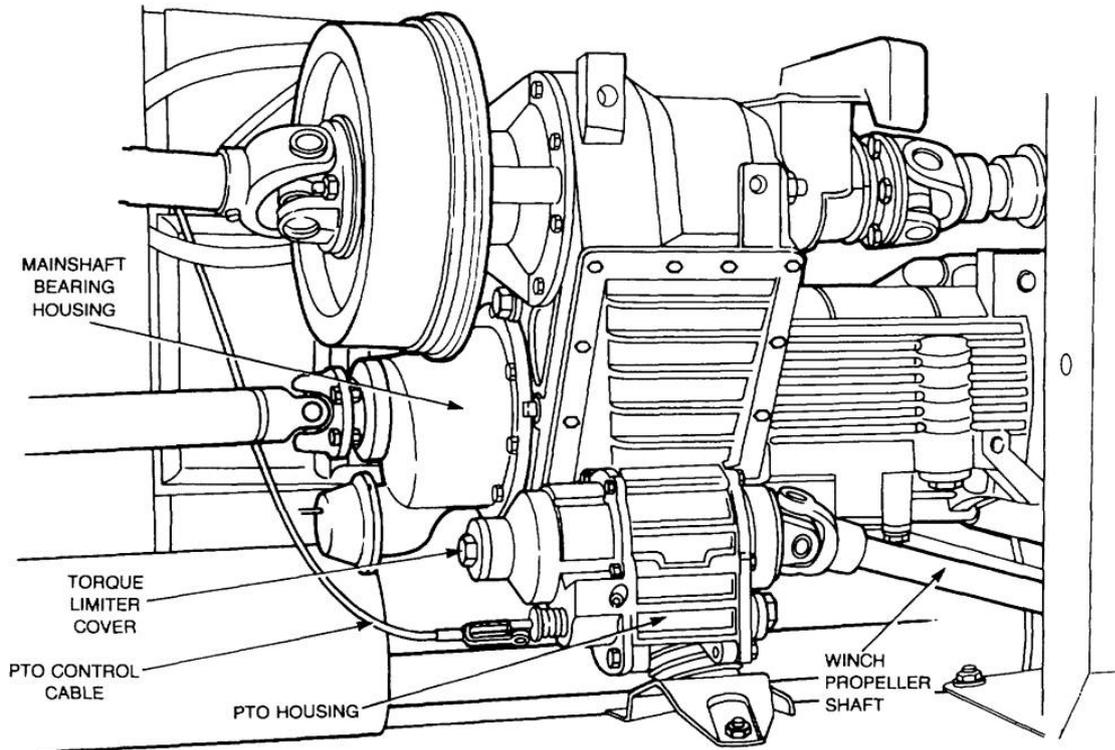

Figure 87 Power Take-off Removal
- i. Remove the bolts securing the rear actuator assembly to the transfer case and remove the rear axle actuator assembly (Figure 87) taking care not to dislodge the mainshaft end support bearing.